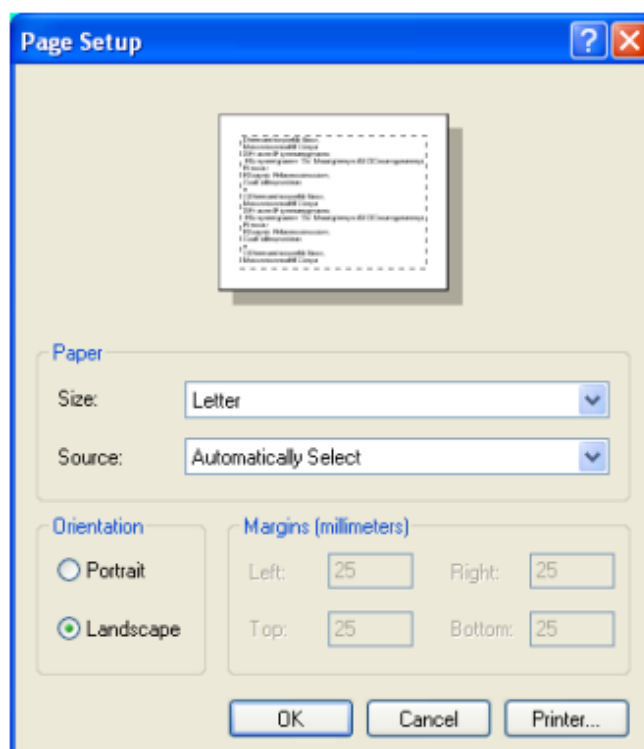

Figure 1.107 – Page Setup panel
1. On the *File* menu, click *Page Setup*, the *Page Setup* dialog is displayed, fig. 1.107.